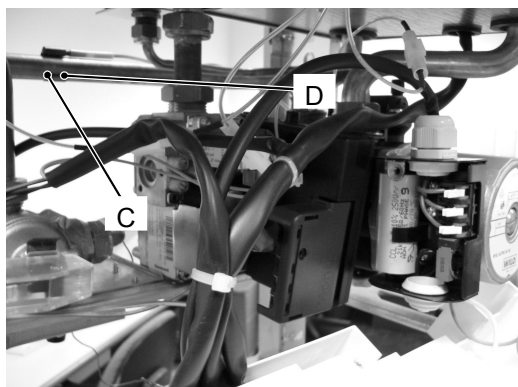

Figure 3
- 4) Remove the probe holder spring C freeing the safety probe D (Figure 3).